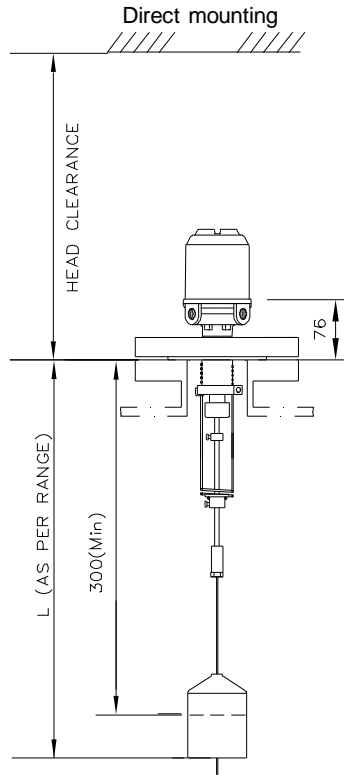

Fig. 6
- 2) Stilling pipe is to be perforated with equispaced holes.(For general arrangement please refer fig. 6).